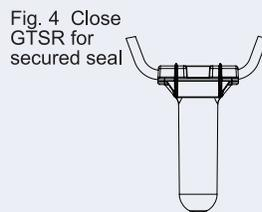

Fig. 4
7. Wipe any sealant around opening and conductors and close lid. Fig. 4